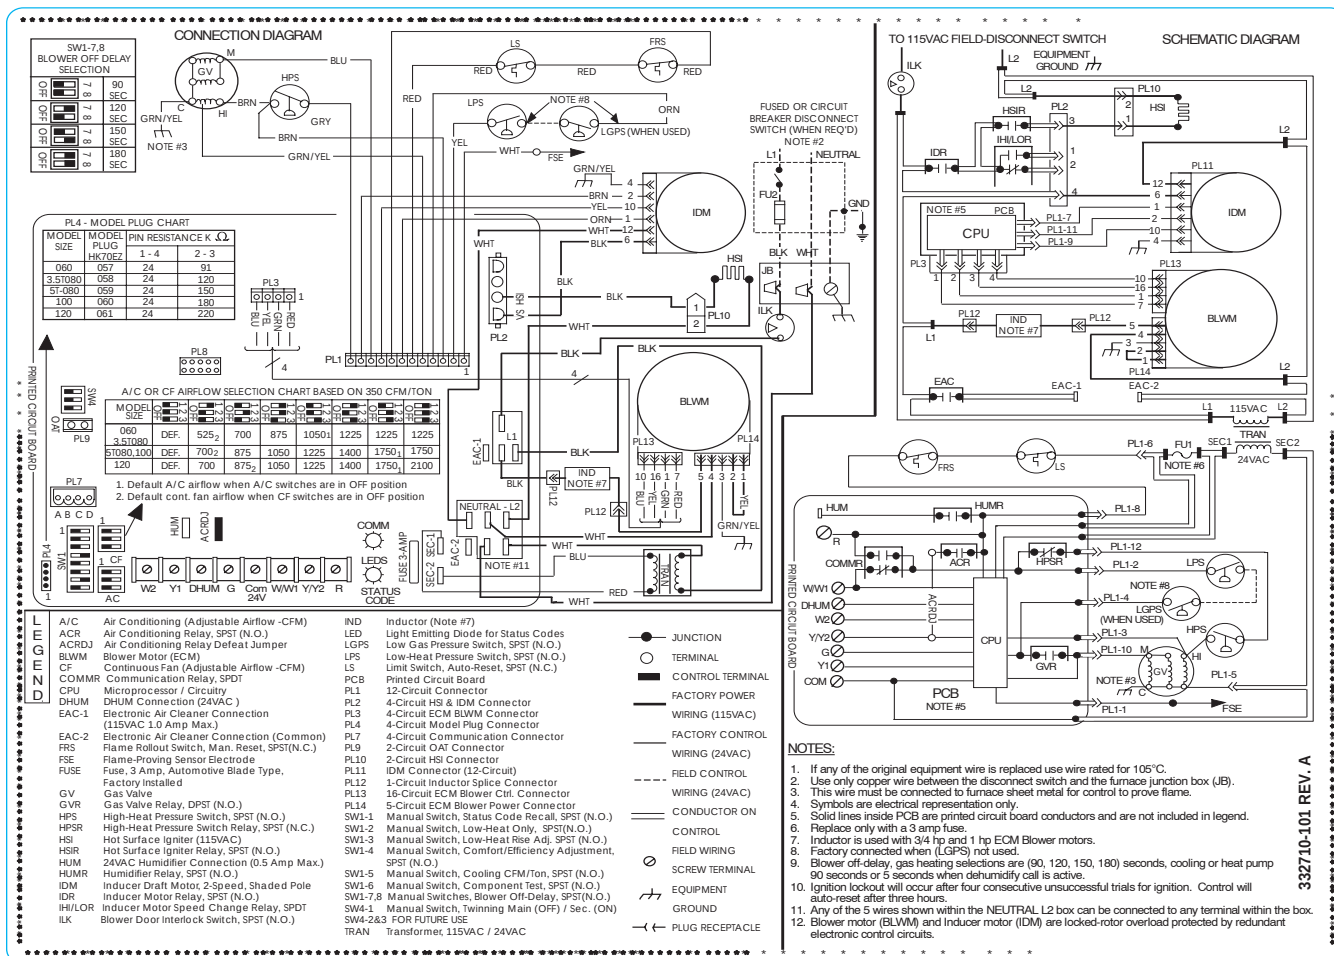

Fig. 23 – Wiring Diagram
4. Use wiring schematic to determine proper setup position of CF switches. (See Fig. 23 and 39.)
Connect an accessory 24 VAC, 0.5 amp maximum humidifier (if used) to the 1/4-in. male quick-connect HUM terminal and COM-24V screw terminal on the control board thermostat strip. The HUM terminal is energized when blower is energized in heating. (See Fig. 23 and 33.)